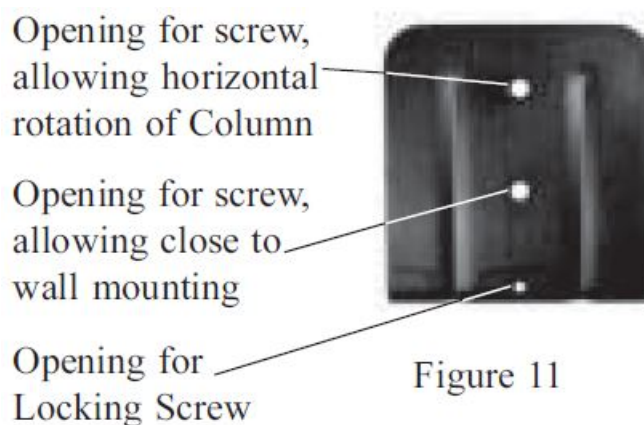

Figure 11
10. Attach the Nylon Pivot Pin to one of the L Mounting Brackets using the short Pivot Pin Screw and Lock Washer. Refer to figures 11 and 12 for the correct opening location.
13. Referring to figures 11 and 12 install the Mounting Sleeve on the wall (orient with opening at the top) us-ing the supplied Mounting Screws.